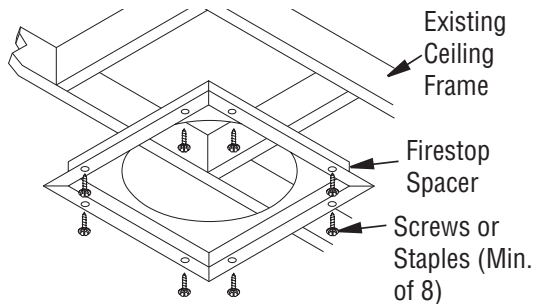

**Figure 14 - Typical Offset Terminations**
3. Maximum length of pipe between supports (return elbow or 12S-12DM) is 6' of angle run. Maximum of two 6' angle run sections per chimney system (see Figure 14, page 12).